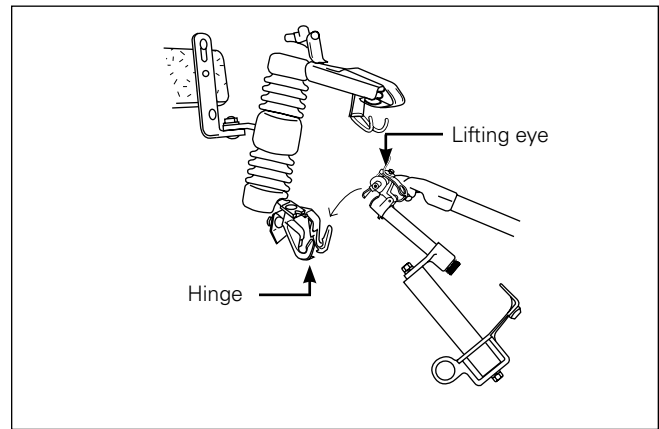

Figure 4. Inserting a Tandem ELF fuse into the interchangeable cutout
2. Place the Tandem ELF fuse into the hinge of the cutout. See Figure 4.